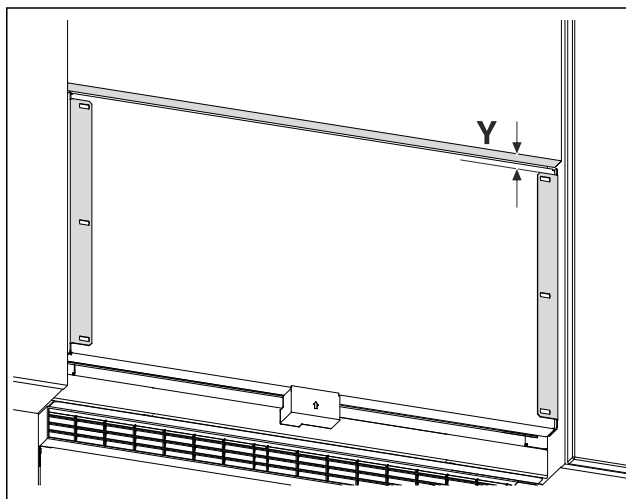

Fig. 25 Example illustration
- Measure the distance Fig. 25 (Y) from the bottom edge of the cabinet door to the bracket angle.